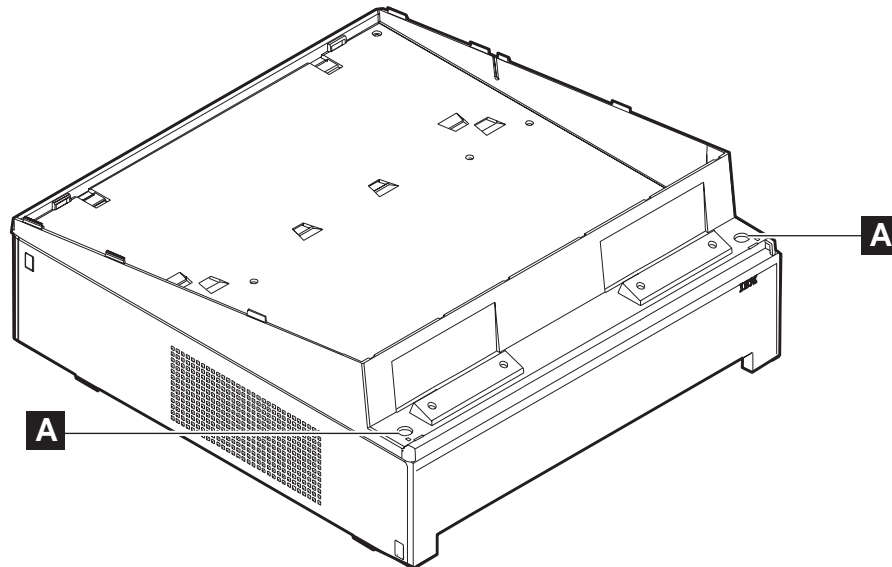

Figure 48. Installing the slanted I/O tray
2. See Figure 48. Turn the I/O tray over. Push on the front of the tab until it locks into place.
4. Attach the I/O tray to the system unit by inserting and tightening the two plastic thumbscrews ( **A** in Figure 48) into the holes at the back corners of the I/O tray.